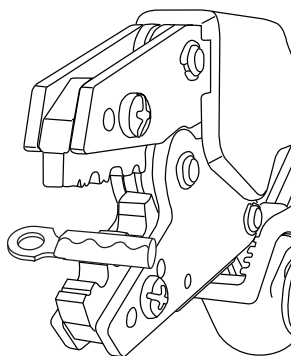

Figure 2
2. Insert terminal into proper nest as shown in Figure 2, with terminal barrel seam facing indenter.